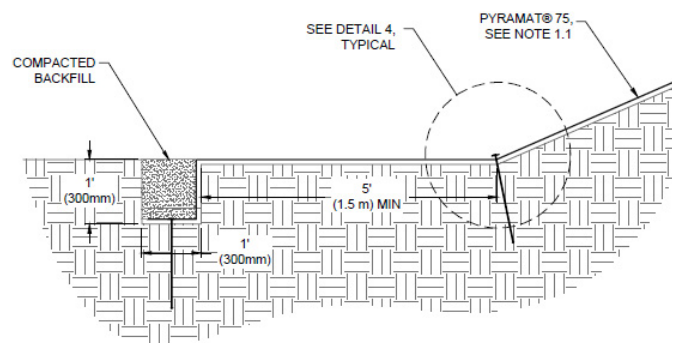

Figure 2: Toe of Slope (TOS) trench
4. Excavate a Toe of Slope (TOS) trench 12 in x 12 in (300 mm x 300 mm) at a minimum distance of 5 ft (1.5 m) from the toe of the slope (Figure 2).